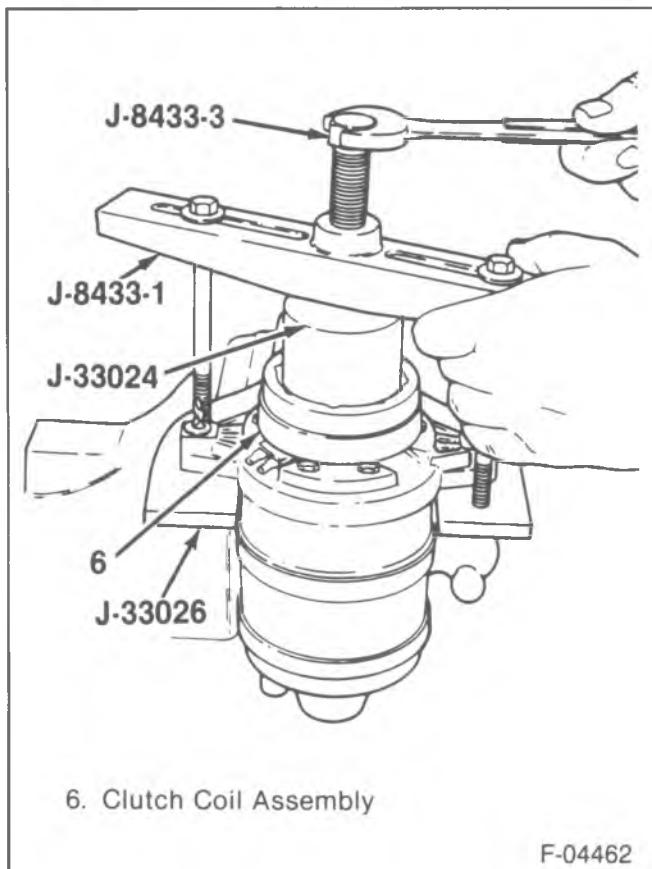

Figure 16—Removing the Clutch Coil Assembly
1. Clutch plate and hub assembly (2).
2. Pulley (5).
- Mark or scribe the location of the clutch coil (6) to terminal on the compressor front head (11).
3. Clutch coil assembly (6).
- Install J-33023-A on the head (11) of the compressor.
- Install J-8433-1 with J-33025 (figure 16).